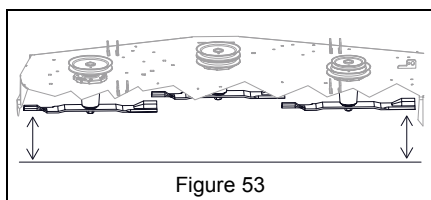

Figure 53
3. Engage parking brake. See Figure 53.